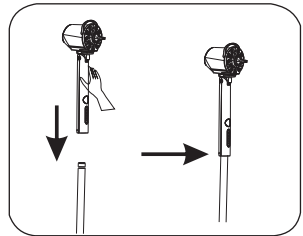

Figure 3
4. Loose the locking nut for switch case and insert the lift pole into the hole located on the bottom of the switch case in place, then fasten the locking nut back tightly. (See Figure 3)